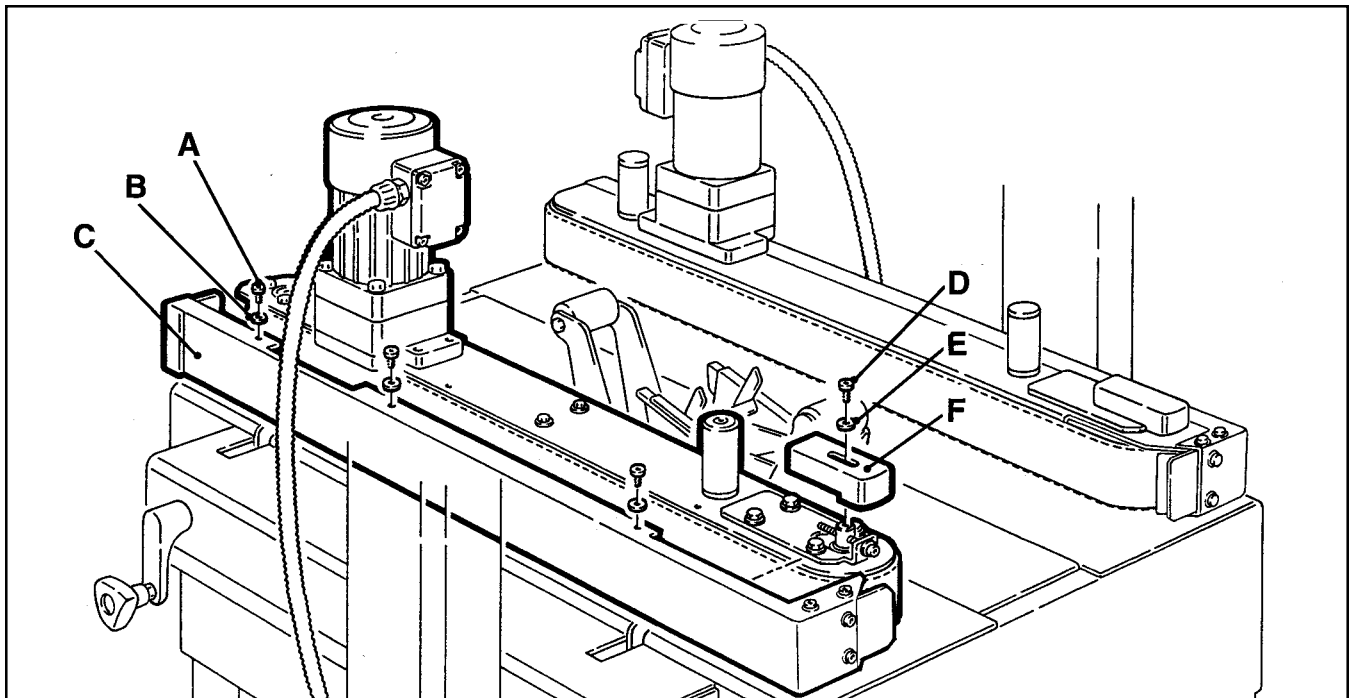
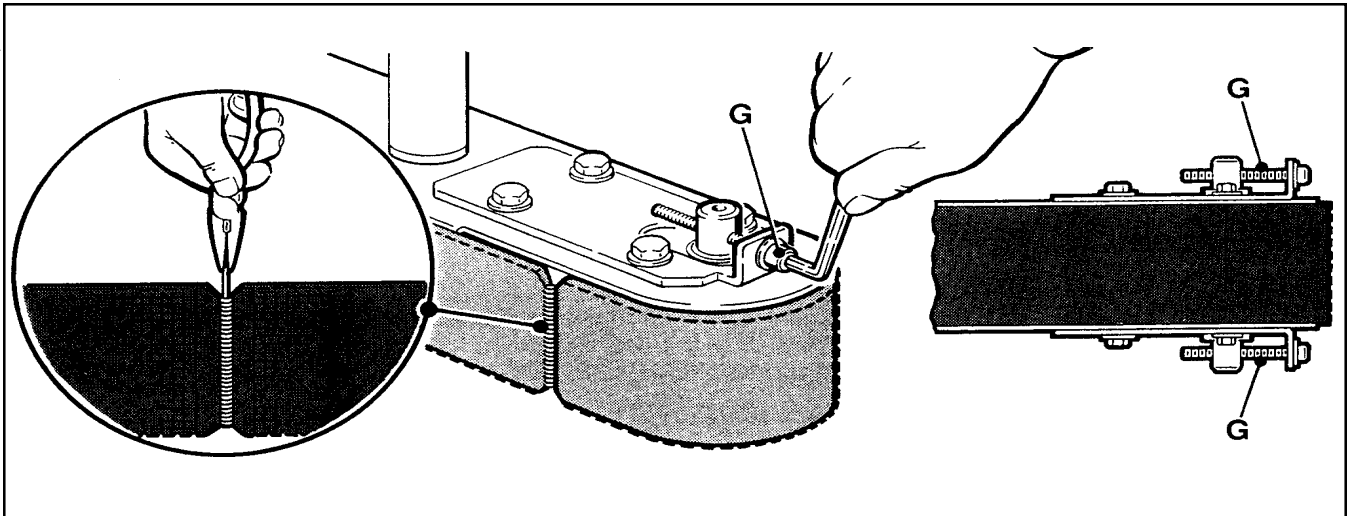

Figure 4-2 – Box Drive Belt (Left Side View – Infeed End)
Figure 4-3 – Box Drive Assembly, Infeed End
2. Remove and retain the three screws (A), three washers (B) and side cover (C). See Figure 4-2.
3. Remove and retain the screw (D), washer (E) and belt tensioner cover (F).
4. Turn belt adjustment screws (G) counterclockwise on both the upper and lower tension assemblies until belt is loose. See Figure 4-3.
7. To set drive belt tension, turn adjustment screws (G) equally on both the upper and lower tension assemblies. Turn the screws clockwise to increase tension or counterclockwise to decrease tension. See Figure 4-3.
8. Reverse procedures in Steps 1-3 (Figure 4-2) to reassemble the drive belt assembly.